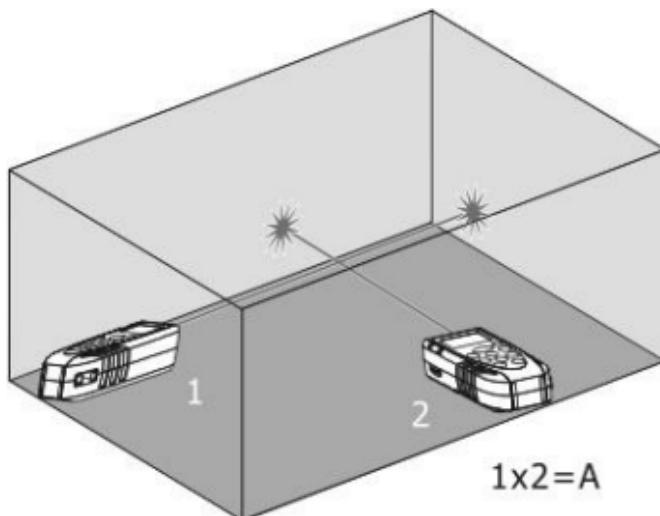

Fig. 5: Example of area measurement
3. Press the   key to perform the first measurement (length) of the surface concerned (see Fig. 5). The corresponding value appears on the first partial display. The symbol “” appears on the display with side “2” flashing
4. Press the   key again to perform the second measurement (width) of the surface concerned (see Fig. 5). The corresponding value appears on the second partial display, while the (up-to-date) total value of the area appears on the resulting display